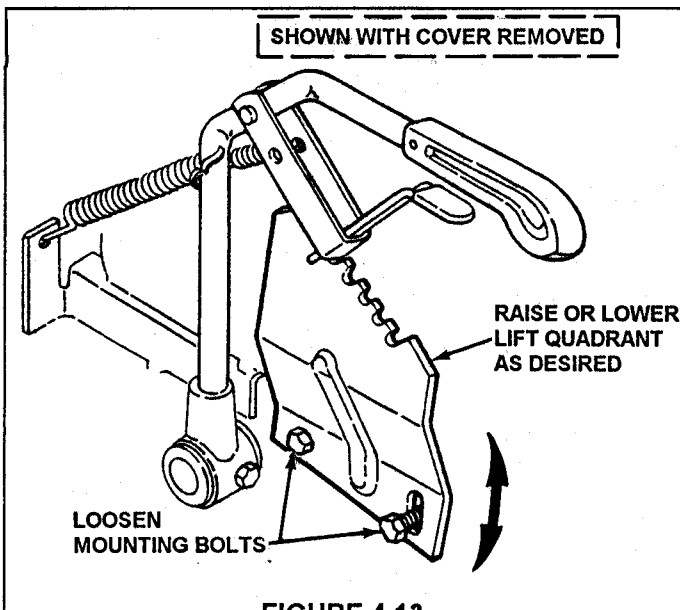

FIGURE 4.13
3. Loosen the two lift quadrant mounting bolts. See Figure 4.13.